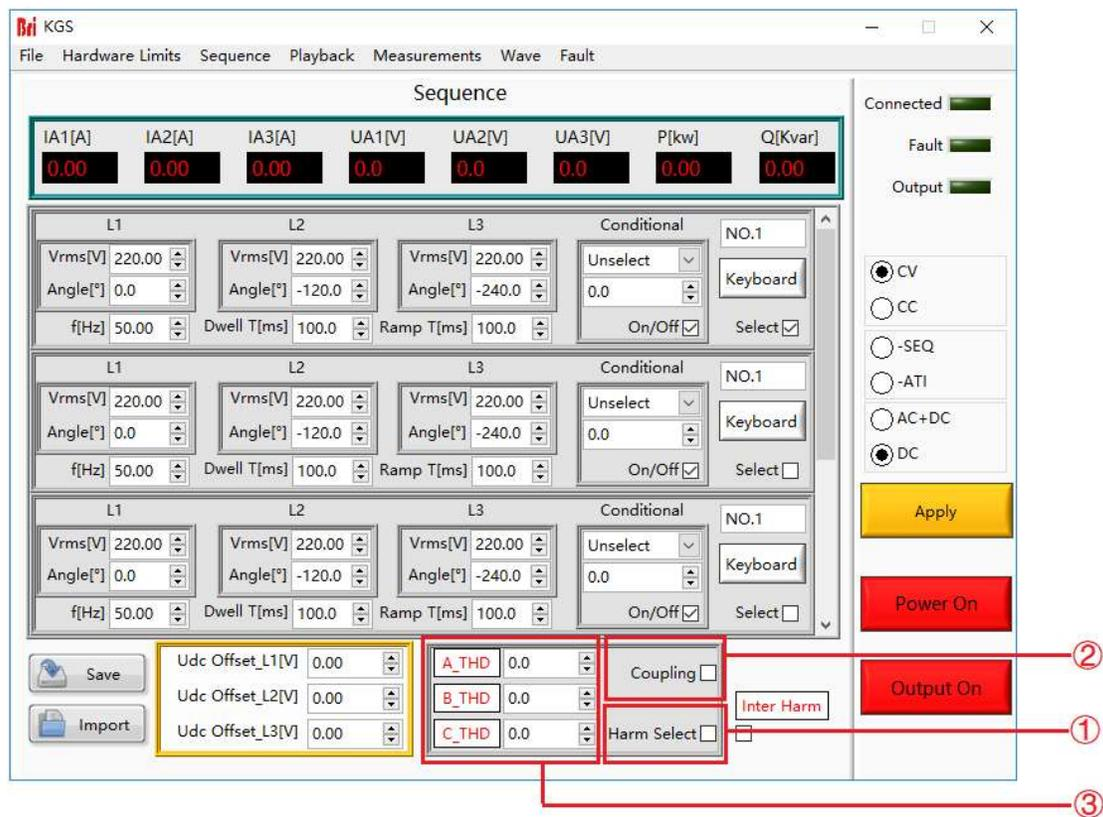

Figure 5-15 Harmonic Edit-1
Click "Sequence Mode" to enter the panel, firstly set the basic operating parameters (such as output voltage, frequency). Click "Apply"→"Power On"→"Output On" in turn, the power supply is on. Check the harmonic selection box (Figure 5-15①), click the A/B/C phase harmonic simulation button (Figure 5-15②), the harmonic setting panel of each order will automatically pop up, then the user can set the harmonic. After setting the parameters such as waveform angle and content, check the corresponding boxes and click "Setting" → "Apply" in turn.
To cancel the harmonic simulation, click the A/B/C phase harmonic simulation button (Figure 5-15③), click "Clear" on the pop-up panel to clear all parameters, and then click "Setting" → "Apply". Finally, uncheck the harmonic selection box.